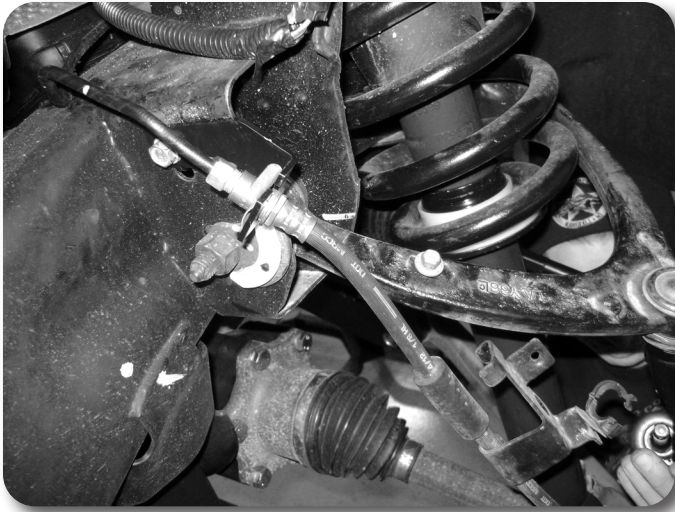

Figure 26
51. Attach the provided brake line bracket to the upper control arm mount using the original mounting bolt so the bracket tab fits in the frame hole. **Figure 26** Leave hardware loose.
54. Attach the ABS line to the upper control arm with the original brake line mounting bolt and provided wire clamp. **Figure 26**